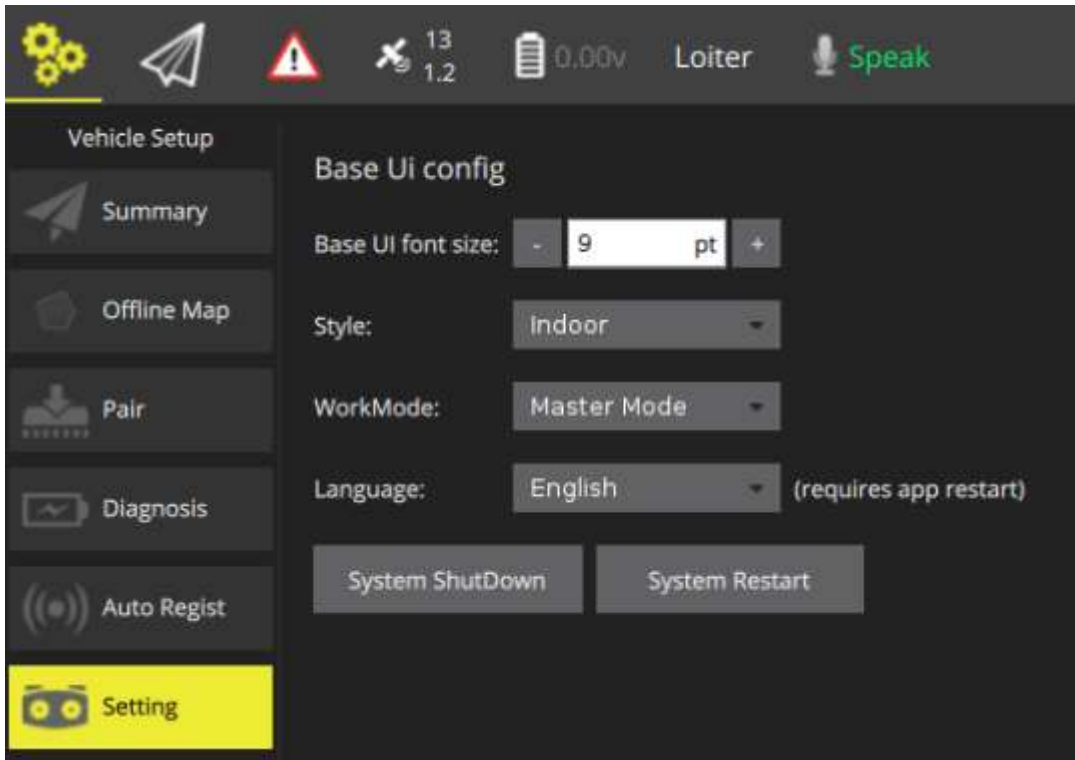

Figure 4-33
Step 1 Select "Settings > Aircraft Settings > Settings > UI Config", and the system will display the interface of "UI Config", as shown in Figure 4-33.